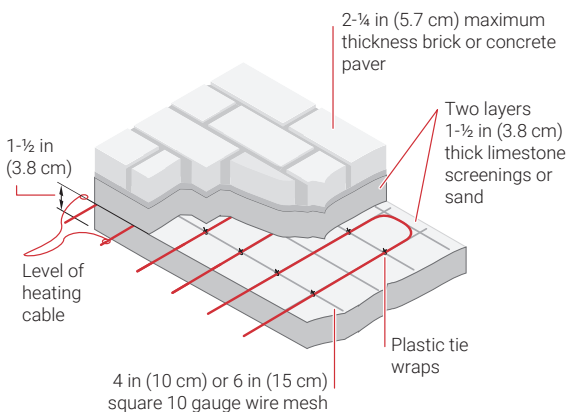

Figure 21: Cross-section showing material layers for paver area
3. Loosely place limestone screening or sand to an uncompacted uniform depth of 1-½ in (3.8 cm) leveled to the grade and profile required (see Figure 21).
5. Install 4 in (10 cm) or 6 in (15 cm) square 10 gauge wire mesh over the compacted limestone screenings/sand (see Figure 21).